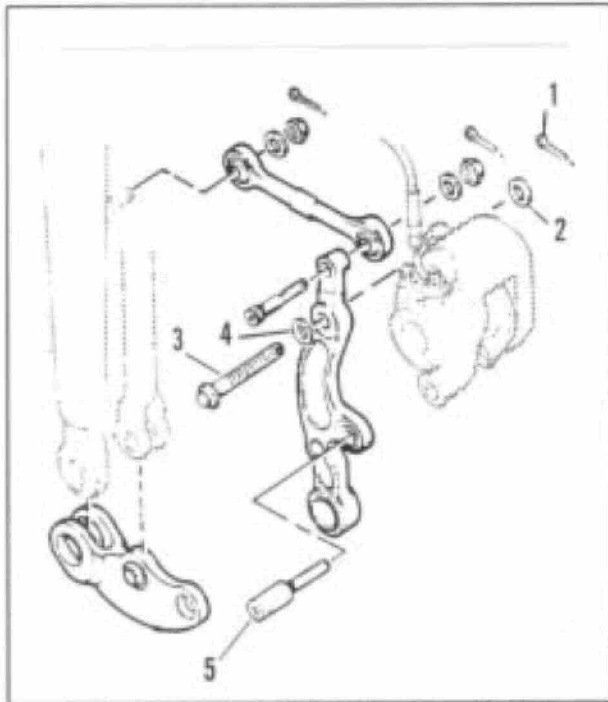

Figure 3. Front Brake Mounting - FXSTS
1. See Figure 3. Remove cotter pin (1) and washer (2) from upper mounting bolt (3).
2. Remove upper (3) and lower (5) mounting bolts and washer (4).